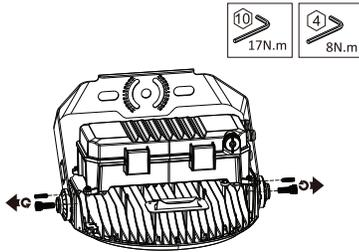

Fig. 31
1. Remove yoke mount bolts on each side (Fig. 31).